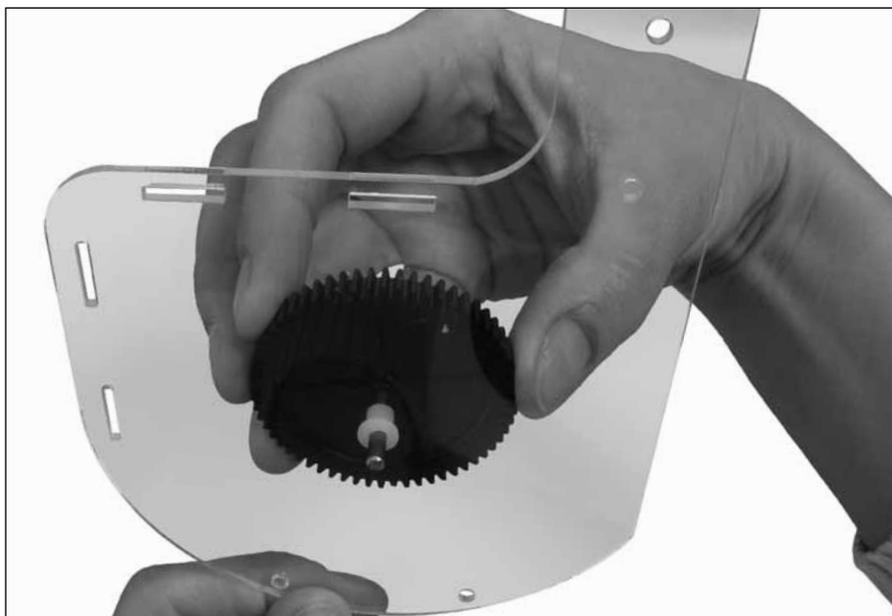

Figure 9
11. Continuing to hold Part A so the notch is pointing up and on the right side, push the 3/4" end of the axle on the gear through the bushing from the back of the part (Figure 9 on the next page). Slide a 5/16" nylon spacer over the axle on the side near you.